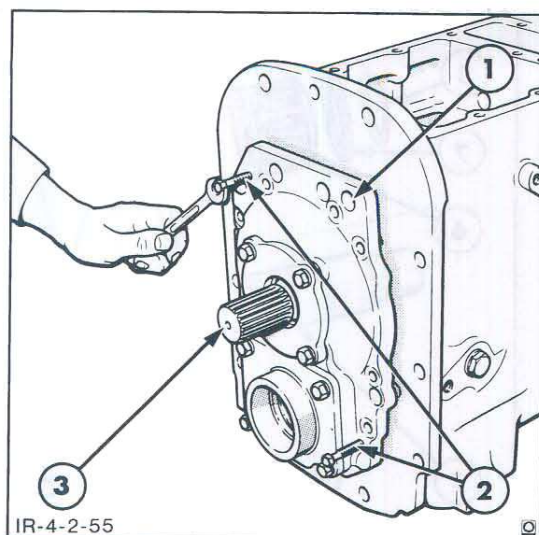

Figure 55
4. Remove the rear cover retaining bolts then screw two jacking bolts into the rear cover as shown in Figure 55. Tighten the two jacking bolts equally until the rear